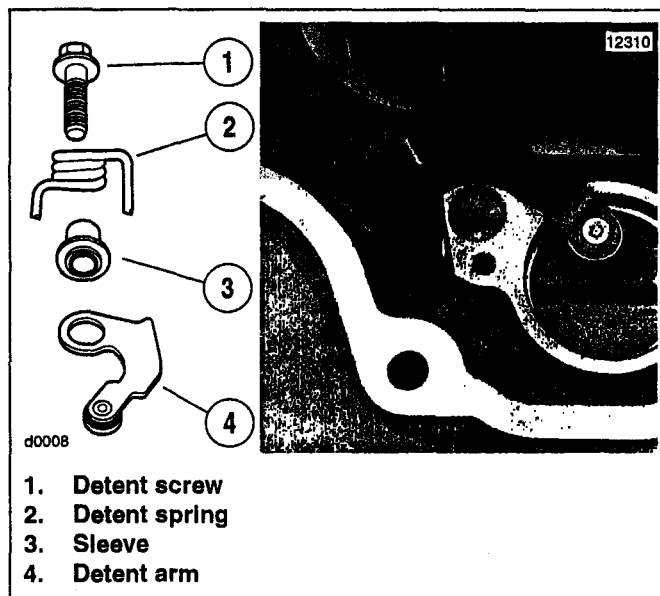

Figure 11. Detent Assembly
- See Figure 11. Assemble new detent screw (1) (Part No. 35244-06 from 94445 recall parts kit), detent spring (2), sleeve (3) and new detent arm (4) (Part No. 33409-06 from 94445 recall parts kit). With transmission bearing housing mounted on end (shafts pointing upward), mount detent assembly in bearing housing as shown. Make certain to orient spring and detent arm as shown in the figure. Tighten screw to 120-150 in-lbs (13.6-17.0 Nm).